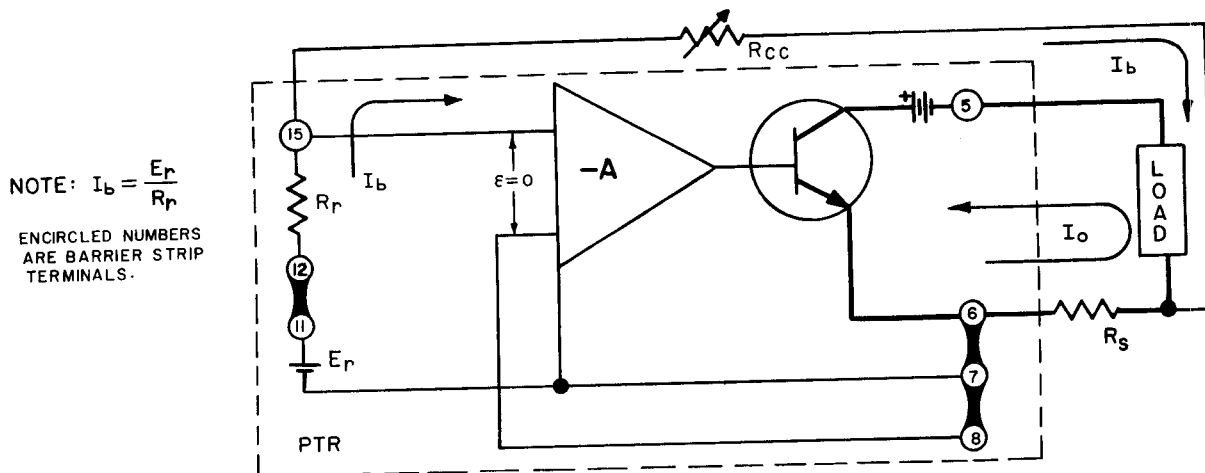

FIG. 3-9 EQUIVALENT DIAGRAM, PTR WITH EXTERNAL SENSING AND RESISTANCE CONTROL.
**NOTE:** This equation (Eq. 1) is derived from the equivalent diagram shown below (refer to FIG. 3-9) and is valid for the "zeroed" PTR.
3-44 The circuit shown in FIG. 3-9 is suitable for output currents from the rated maximum of the PTR down to about 10  $\mu\text{A}$ . The components for the circuitry are selected as described below:
- b) CONTROL CURRENT ( $I_b$ ). The internal zener voltage source of the PTR ( $E_r$  6.2V nominal) can deliver a maximum control current of 1.2 mA with its internal reference resistor ( $R_r$ ) connected as shown in FIG. 3-9. PTR models with suffix "R" are equipped with a calibrating control (R18—1 K ohm) in series with  $R_r$ , which permits calibration of  $I_b$  to 1 mA. This " $I_b$  CAL" or calibration control can be added internally by the user (refer to Section V of this manual) or, a rheostat may be added externally, between terminals (11) and (12) on TB1. The standard (1 mA) control current ( $I_b$ ) may be reduced to smaller values as required, by connecting an external resistance between terminals (11) and (15). The required values are given in Table 3-1.